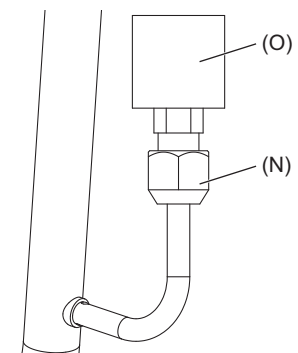

Fig.15
- (1) Loosen the flare nut (N) using two wrenches to remove the pressure sensor (O). To prevent damage to the flare piping, use caution not to apply excessive force to it. (Fig. 15)